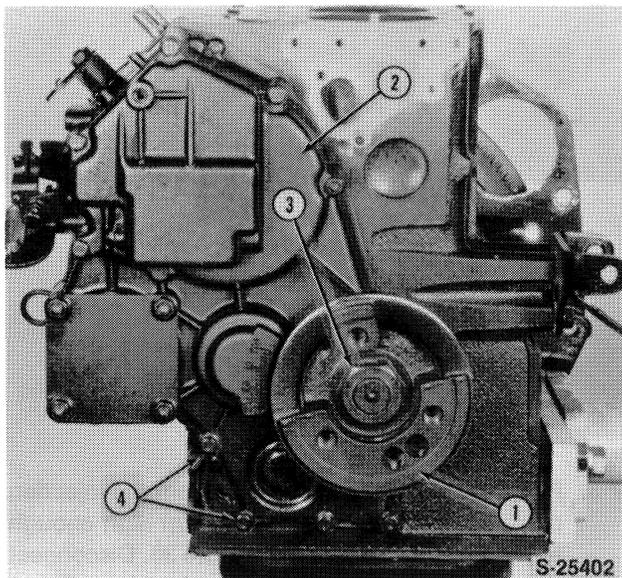

Figure 37
4. Unscrew the nut (3) and remove the crankshaft pulley (1) and key, Figure 37.
5. Remove the timing gear cover bolts (4), Figure 37 and remove the cover.